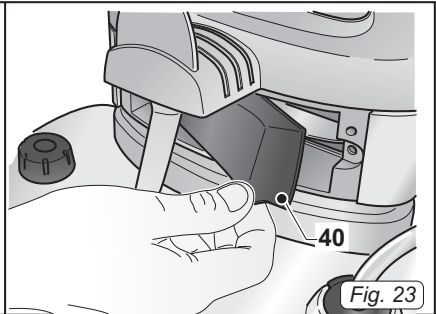
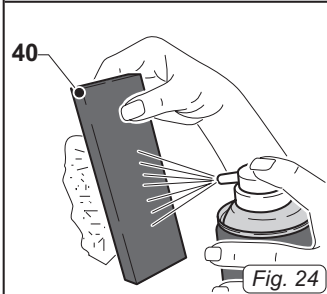

Fig. 23
Fig. 24
- Remove the filter sponge (40 Fig.23) and clean it with a blast of air (Fig.24). The filter sponge can be washed in warm water and must only be replaced once it is completely dry. If it is too dirty, replace it with a new one.